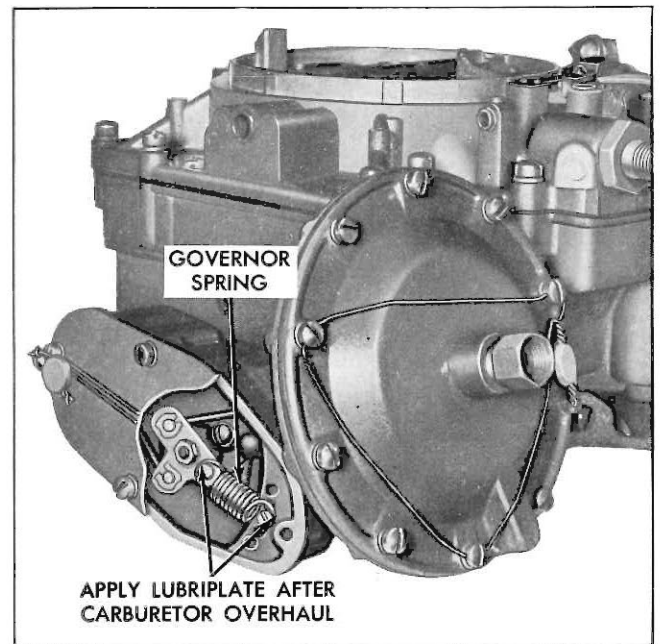

Fig. 5—Vacuum Spinner Truck Engine Governor
- **TRUCK VACUUM SPINNER GOVERNOR**—Upon completion of carburetor overhaul on a truck equipped with a vacuum spinner type governor, Lubriplate or equivalent should be applied at the hook ends of the governor spring. This spring is utilized in the carburetor-mounted portion of the engine governor (Fig. 5).